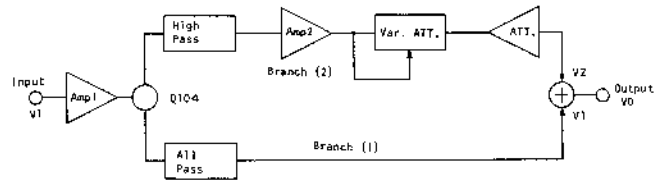

Fig. 2.2.8 Dynamic Noise Limiter System Diagram
Fig. 2.2.7 shows the circuit for the dynamic noise limiter (DNL). Its system diagram is shown in Fig. 2.2.8. Input terminal 14 (1) can be connected with the output of the mixing amplifier or that of the playback mode Dolby NR processor by the selection of MONITOR switch. The output of dynamic noise limiter 10 (5), and the other output independent of it, 12 (3) are applied to the DNL switch and becomes the input for METER AMP. A signal selected by this switch becomes the input to LINE AMP. In this system, noise reduction is performed only in the playback mode.